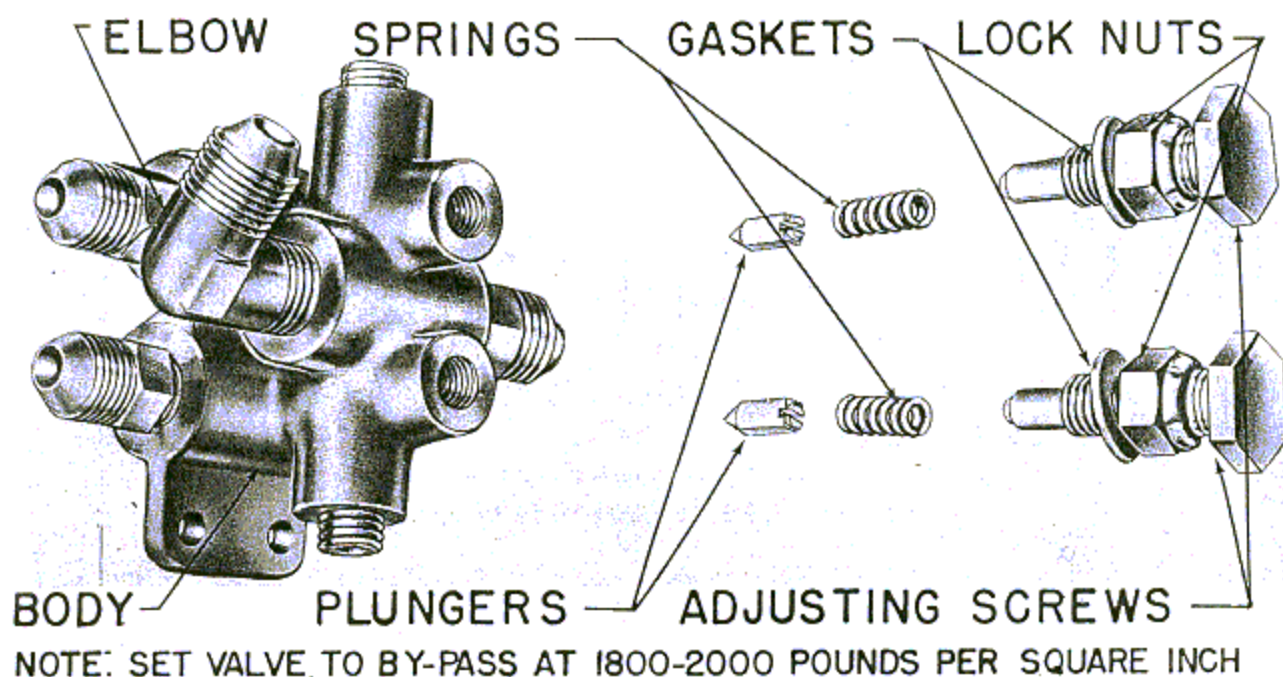

Figure 244—Twin Hydraulic Relief Valve Disassembled
2. Loosen the two lock nuts and turn out the adjusting screws. After the setscrews are removed, the two springs and plungers will drop out. (See figure 244.)